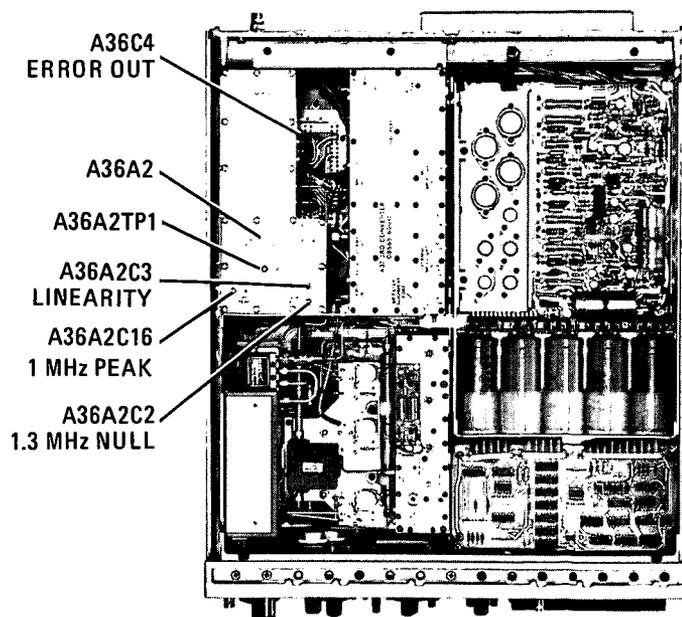

Figure 5-46. Tuning Stabilizer VCXO Adjustment Locations
- s. Remove A36A2 cover plate (Figure 5-46) for access to test points and center A36A2C3 LINEARITY.